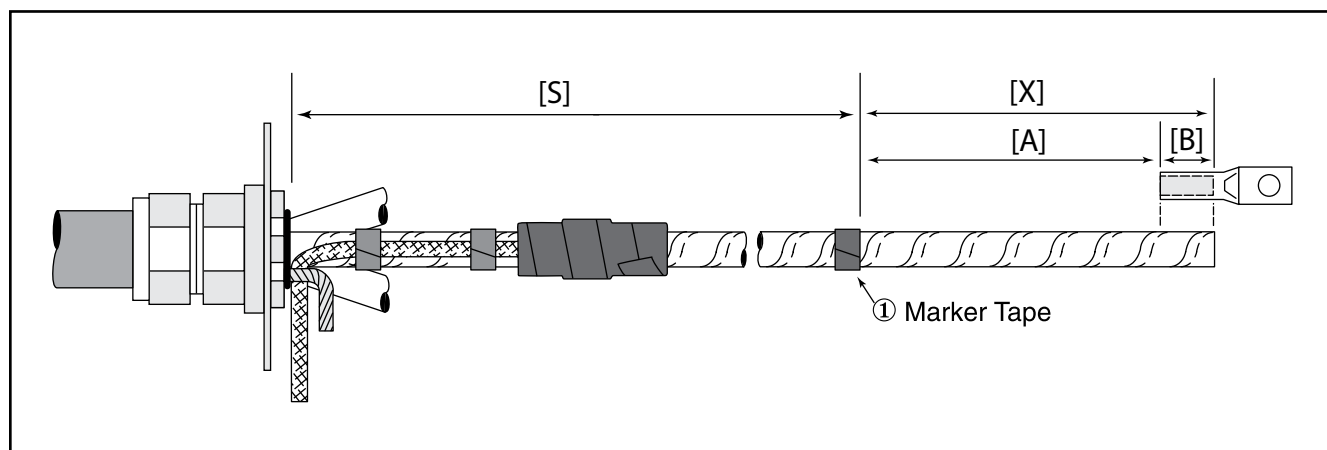

Figure 5
3.1 From the chart below, determine the correct [A] dimension (Figure 5) for the termination product being installed.
3.2 Place a vinyl tape marker on each cable phase leg at dimension [X] (① Figure 5).
3.3 Determine required phase rejacketing sleeve length ( $[S] - 1"$  (25 mm) Figure 5).